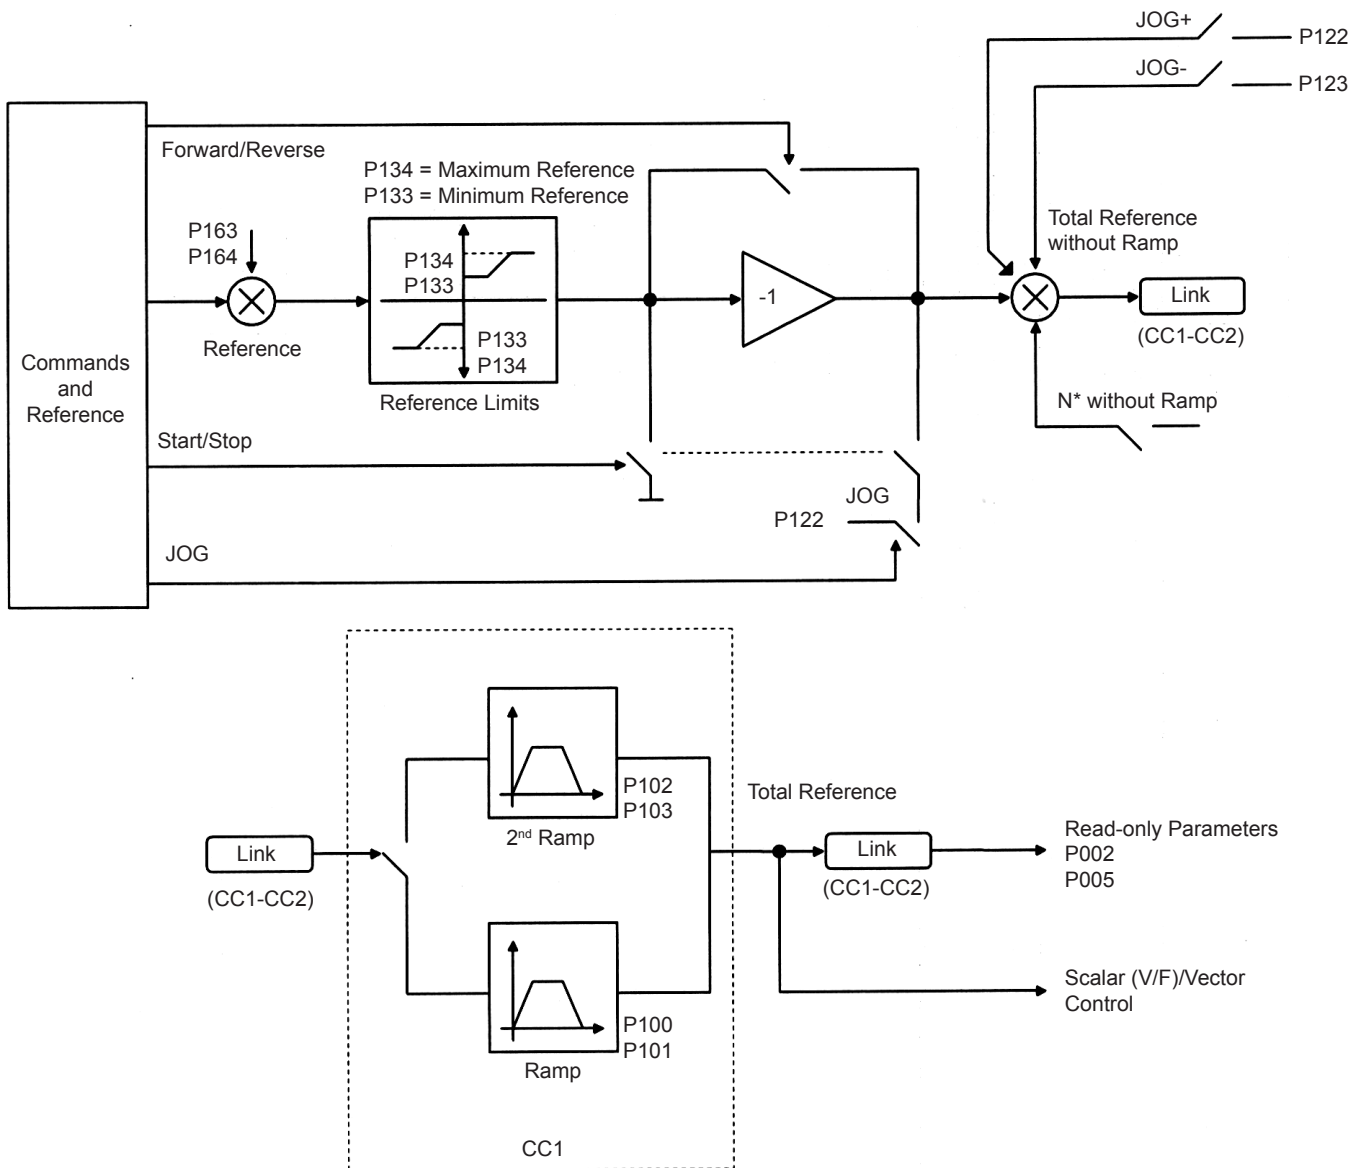

Figure 6.24 - Speed reference block diagram
| P237 (1)Analog Input AI2Function    | 0 to 3[ 0 ]-                 | <p>Table 6.36 - Analog input AI2 function</p> <table border="1"> <thead> <tr> <th>P237</th> <th>Function</th> </tr> </thead> <tbody> <tr> <td>0</td> <td>P221/P222</td> </tr> <tr> <td>1</td> <td>Without function</td> </tr> <tr> <td>2</td> <td>Maximum Torque Current</td> </tr> <tr> <td>3</td> <td>PID process variable</td> </tr> </tbody> </table> <p><input checked="" type="checkbox"/> When the option 0 (P221/P222) is selected, AI2 is able to receive the speed reference, which will be subjected to the speed limits (P133 and P134) and ramp action (P100 to P103), providing that it has been programmed so in P221 and/or P222. Refer to the figure 6.24.</p> <p><input checked="" type="checkbox"/> The option 3, process variable, defines the AI2 input as the PID regulator feedback signal (e.g., pressure or temperature sensor, etc.), provided that P524 = 0.</p> | P237 | Function | 0 | P221/P222                | 1 | Without function | 2 | Maximum Torque Current   | 3 | PID process variable |
| P241 (1)Analog Input AI3Function(Isolated AnalogInput located onthe Optional BoardEBB.Refer to thechapter 8) | 0 to 3[ 0 ]-                 | <p>Table 6.38 - Analog input AI3 function</p> <table border="1"> <thead> <tr> <th>P241</th> <th>Function</th> </tr> </thead> <tbody> <tr> <td>0</td> <td>P221/P222</td> </tr> <tr> <td>1</td> <td>Without function</td> </tr> <tr> <td>2</td> <td>Maximum Torque Current</td> </tr> <tr> <td>3</td> <td>PID process variable</td> </tr> </tbody> </table> <p><input checked="" type="checkbox"/> When the option 0 (P221/P222) is selected, AI3 is able to receive the speed reference, which will be subjected to the speed limits (P133 and P134) and ramp action (P100 to P103), providing that it has been programmed so in P221 and/or P222. Refer to the figure 6.24.</p> <p><input checked="" type="checkbox"/> The option 3, process variable, defines the AI3 input as the PID regulator feedback signal (e.g., pressure or temperature sensor, etc.), provided that P524 = 1.</p> | P241 | Function | 0 | P221/P222                | 1 | Without function | 2 | Maximum Torque Current   | 3 | PID process variable |   |                |